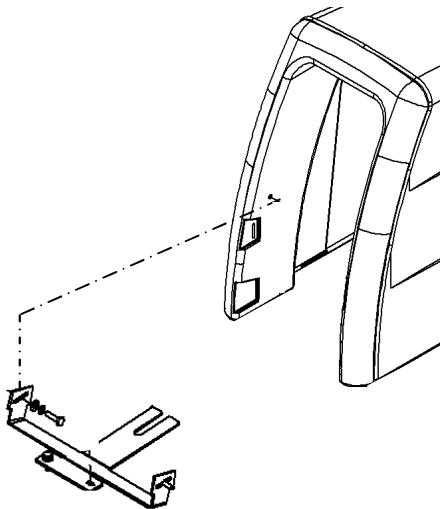

Figure 12, Mounting Bracket to Hood Attachment
16. Align the holes in the mounting bracket with the holes in the side of the hood, as shown in Figure 12.